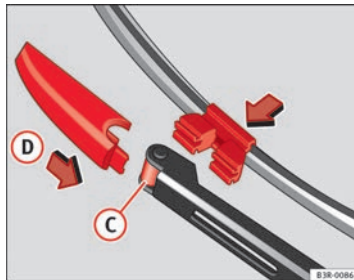

Fig. 174 Fitting the wiper blade
- Fit the new wiper blade into the mounting on the wiper arm ⇒ Fig. 174 (C).
- Slide the retainer catch on the wiper blade in direction (D) so that it clicks into place on the wiper arm.